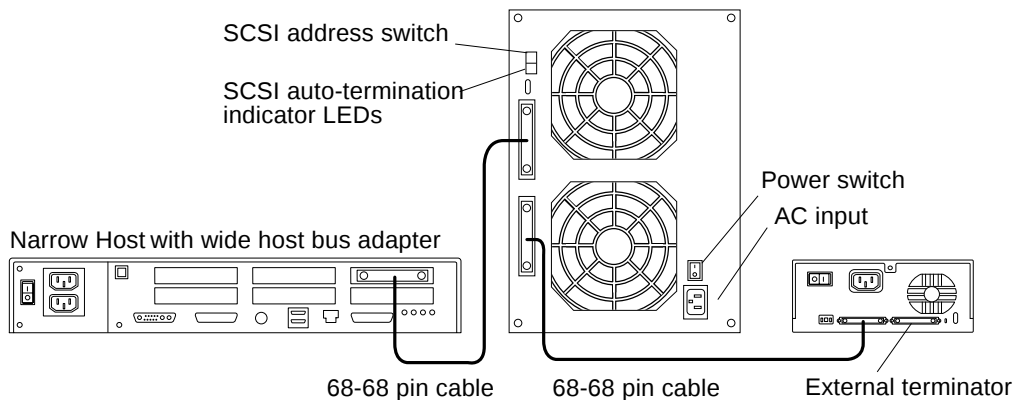

FIGURE B-4 SPARCstorage MultiPack 2 Unit in a Daisy-Chain Connection
1. **Connect one end of the SCSI cable to the SCSI port of your host system (FIGURE B-4).**